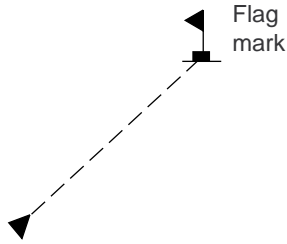

Figure 5-4 Single destination set by cursor
- 5) Press the [NU/CU ENT] key to finish. Control is returned to the display mode in use before you set destination. A dashed line connects own ship and the destination, which is marked with a flag, as shown in Figure 5-4.